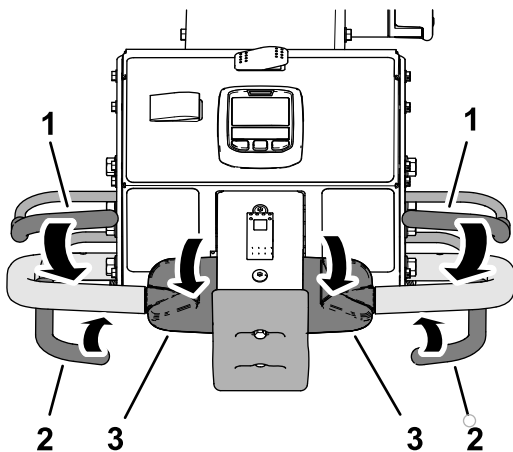

Figure 37
2. Hold either operator-presence bail to the handlebar, rotate the top of the traction control forward, and close the aerate bail (Figure 37).